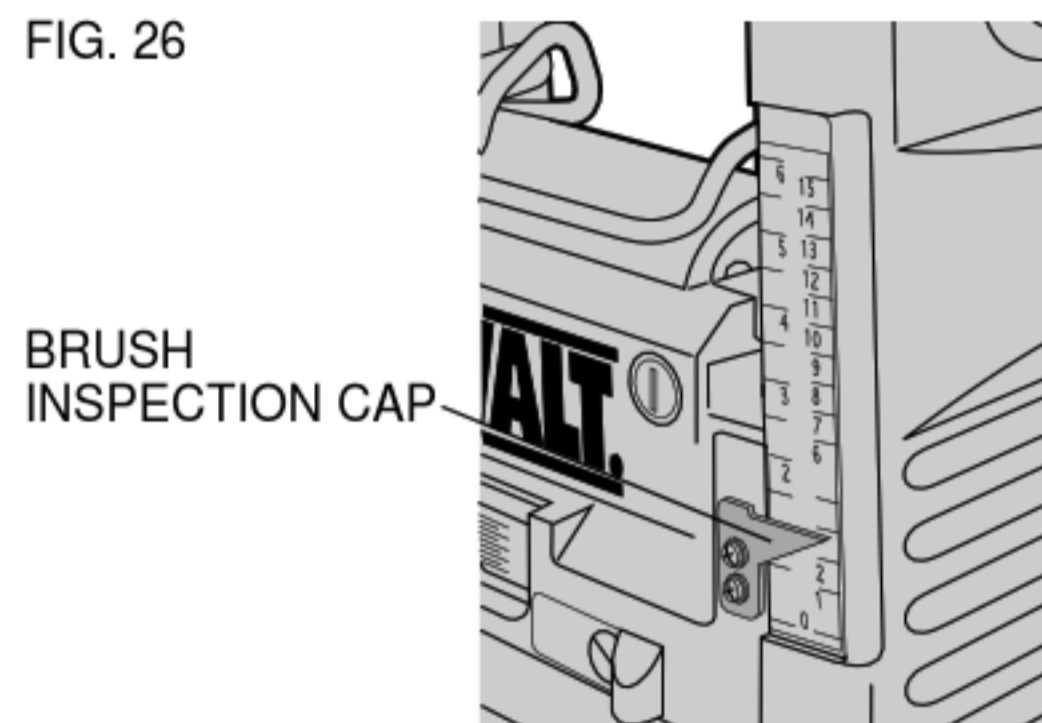

FIG. 27
5. **Figure 27** - Start the belt on the top pulley (A) as shown in Figure 1 with 3 grooves on the pulley.